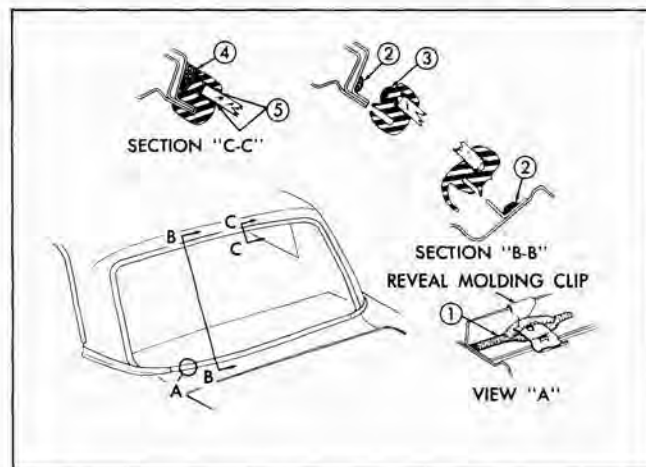

Fig. 5-1 Back Window Sealing
2. Check installation of reveal molding clips at pinchweld and retaining flanges and replace clips, where necessary. If replacing clips, apply medium-bodied sealer to opening rabbet, prior to installing clips. (See "1" in View "A" Fig. 5-1).
3. Apply a continuous ribbon of medium-bodied sealer (approximately 1/2 inch wide by 1/4 inch thick) on wall of rabbet, completely around opening. (See "2" in Section "B-B" Fig. 5-1).
5. Apply a continuous ribbon of medium-bodied sealer (approximately 1/2 inch wide by 1/4 inch thick) to base of rubber channel across top and down sides at opening. (See "3" in Section "B-B" Fig. 5-1).
8. Using a pressure-type applicator, apply sufficient medium-bodied sealer to completely fill any openings between rubber channel and body completely around rubber channel. (See "4" in Section "C-C" Fig. 5-1).
9. Using a pressure-type applicator (Pistol-type oiler) apply weatherstrip adhesive (black) between rubber channel and glass on inside and outside of glass around entire perimeter of glass (See "5" in Section "C-C" Fig. 5-1). Application of adhesive should be continuous with no skips.